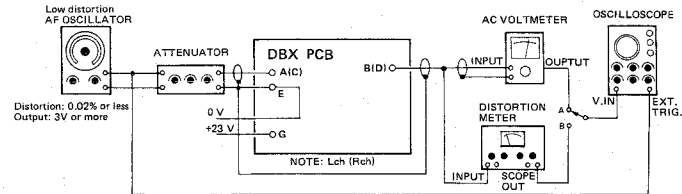

Fig. 5-15 Connections for ENCODER adjustment (2)
4. Change the connections to Fig. 5-15, then feed a 1 kHz -8 dB (308 mV) input signal to the INPUT terminal. Adjust R76/R86 so that AC voltmeter reads -8 dB (308 mV).